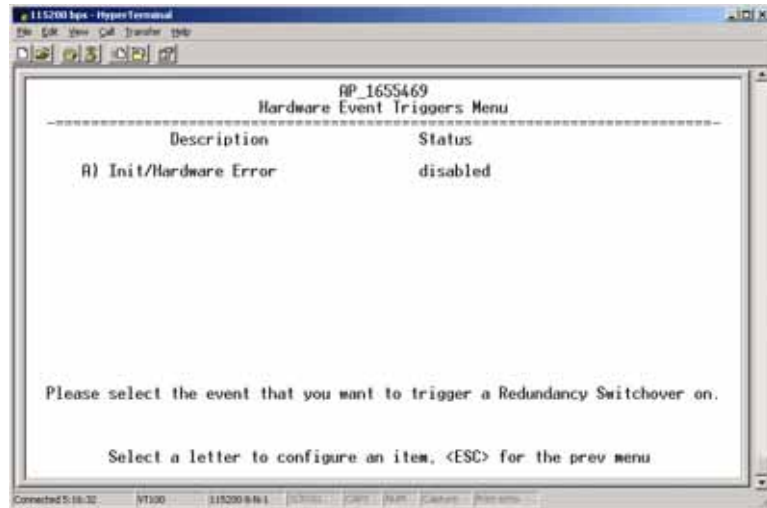

Figure 3-73. Hardware Event Triggers
- **Hardware Event Triggers**—This selection opens a submenu (Figure 3-73 on Page 104) where you can set/view the trigger status for initialization/hardware errors.